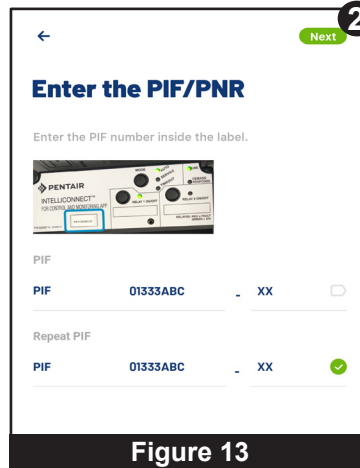

Figure 13
4. The Enter the PIF or Enter the PNR screen will display (**Figure 13**). Enter the number twice. A green checkmark will display if entered correctly.
5. Press NEXT (2) in the top-right corner of the screen.